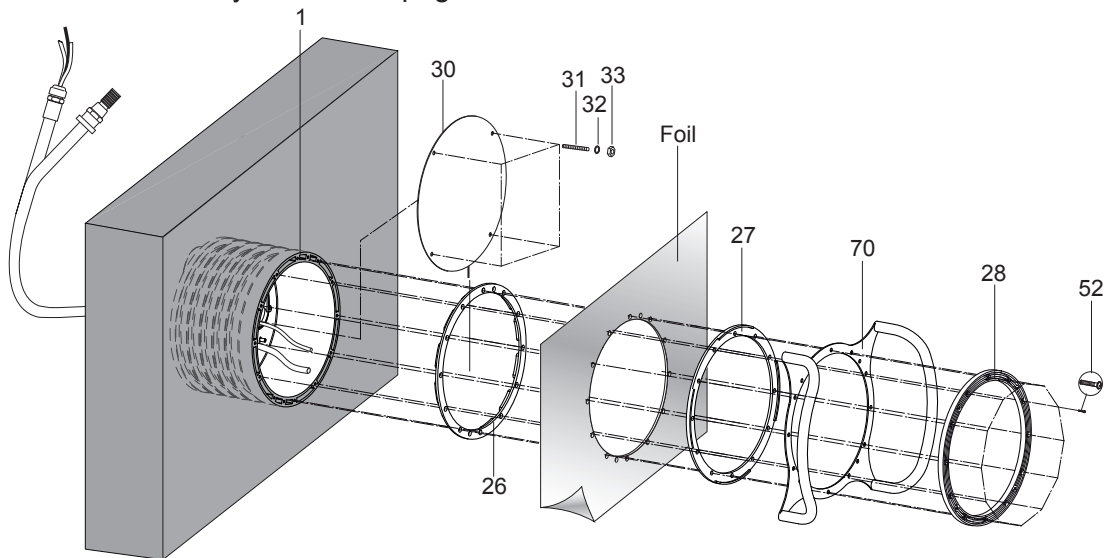
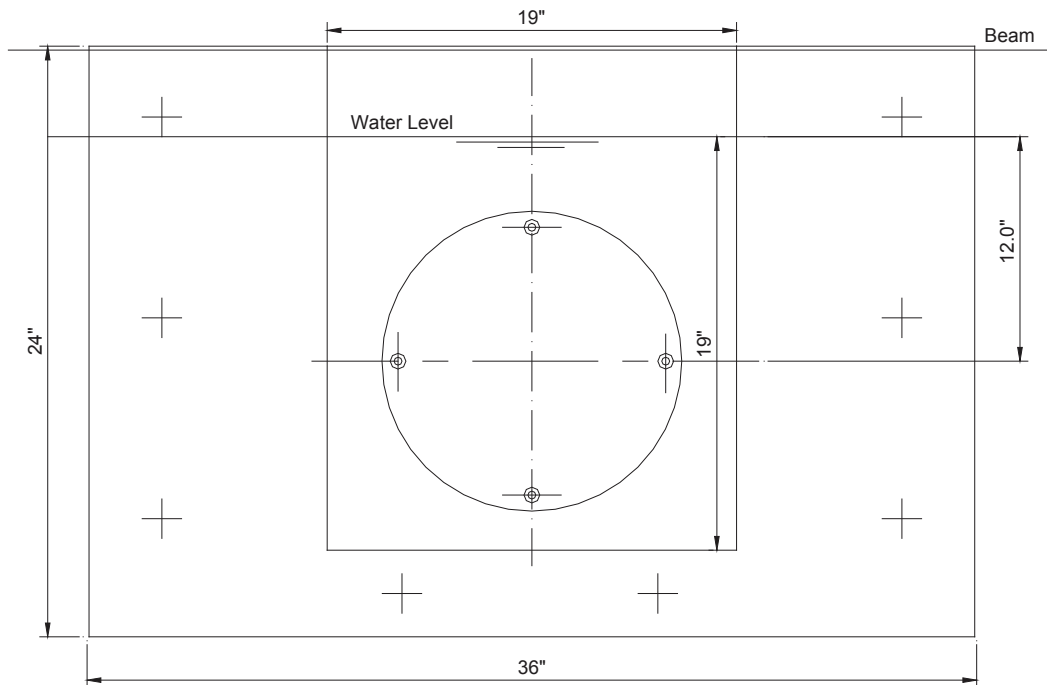
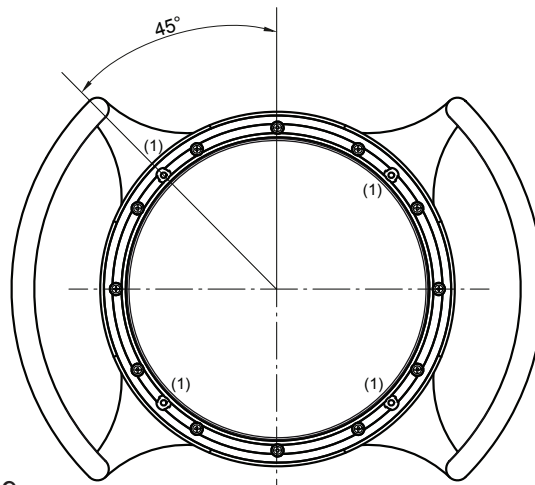

Figure 6
Figure 8
Figure 9
- Slide the inner wall formwork over the M8 x 80 studs (part# 31) using the pre-drilled holes. Attach formwork to the jet housing using four (4) 8.4mm washers (part# 32) and four (4) M8 nuts (part# 33).
7. Once the concrete or guniting is fully cured and pool wall is completed, remove the formwork, guniting cover, gasket with knobs, and studs. Be sure that the front edge of the jet housing is flush with the inner pool wall. During plastering, the guniting cover (part# 30) should remain installed to the jet housing using the four (4) M8 x 80 studs (part# 31), four (4) 8.4mm washers (part# 32), and four (4) M8 nuts (part# 33).
- **Guniting wall (no tile or liner):** Align the stainless steel handles (part# 70) and clamping ring (part# 28) as shown in Figure 9. Using the twelve (12) M8 x 30 clamping ring screws (part# 52), attach the clamping ring and handles to the jet housing.
- **Concrete pool with vinyl liner:** Use the template in Figure 4 to mark and drill the holes through the liner (twelve (12) M8 holes and center 14" hole). Insert the gasket with knobs in the front of the jet housing (part# 26). Install the liner with the holes aligned to the jet housing. Align the clamping ring (part# 28) and stainless steel handles (part# 70) as shown in Figure 9. Place the clamping ring gasket (part# 27) behind the stainless steel handles and install using the twelve (12) M8 x 30 clamping ring screws (part# 52). (See Figure 6)
4. Taking the 2' x 3' x 1/4" plywood, set its top edge even to the cap of the pool wall. In some cases a larger piece of plywood maybe needed to cover the hole completely. If plywood covers the hole completely, mark the water line on the plywood. From this line, layout and drill holes in plywood for the four (4) M8 x 80 gunitite cover studs (part# 31) and the eight (8) 1/4" lag screws. (See *Figure 8*)
5. Insert the four (4) M8 x 80 gunitite cover studs (part# 31) in the jet housing; one on each end of the vertical center line and one on each side on the horizontal center line insert gasket with knobs (part# 26). Place gunitite cover on studs covering the inside of the jet housing. Next place plywood on the studs and secure to the jet housing with four (4) M8 stud washers (part# 32) and four (4) M8 gunitite cover stud nuts (part# 33). The pressure connection should be located directly **ABOVE** the suction connection.
6. Now place this assembly into position in the pool wall and align the water line marks. With a level on the two (2) horizontal studs, level the assembly and mark the eight (8) holes for the 1/4" lag shield anchors. Remove assembly and drill holes for lag anchors. Install lag shield anchors. Reposition the assembly and secure it to the lag shield anchors with 1/4" lag screws. It is best to check with a level before tightening the lags down. Back fill and form the outside of pool wall.
- **Gunitite wall (no tile or liner):** Align the stainless steel handles (part# 70) and the clamping ring (part# 28) as shown in *Figure 9*. Using the twelve (12) M8 x 30 clamping ring screws (part# 52), attach the clamping ring and handles to the jet housing.
- **For a concrete pool with vinyl liner:** Use the template in *Figure 4* to mark and drill the holes through the liner (twelve (12) M8 holes and center 14" hole). Insert the gasket with knobs (part# 26) in the front of the jet housing. Install the liner with the holes aligned with the jet housing. Align the clamping ring (part# 28) and stainless steel handles (part# 70) as shown in *Figure 9*. Place the clamping ring gasket (part# 27) behind the stainless steel handles and install using the twelve (12) M8 x 30 clamping ring screws. (See *Figure 6*)
6. Align the clamping ring (part# 28) over the stainless steel handles (part# 70) as shown in Figure 9.
7. Install the twelve (12) M8 x 30 clamping ring screws (part# 52).